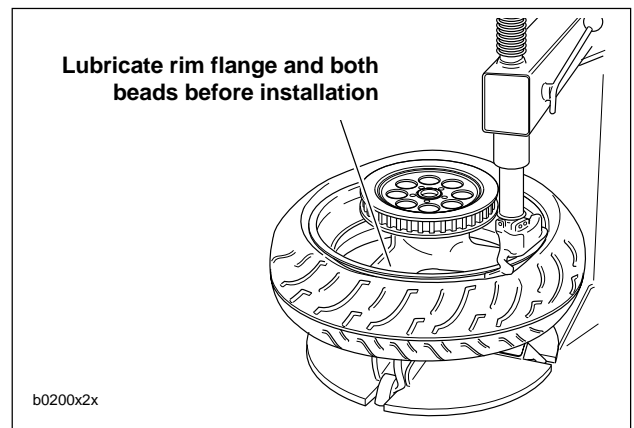

Figure 2-29. Starting Bead on Rim
4. See Figure 2-29. Starting at the valve stem, start first bead into the rim well using a bead breaker machine. If no machine is available, work bead on as far as possible by hand. Use a tire tool to pry the remaining bead over rim flange.